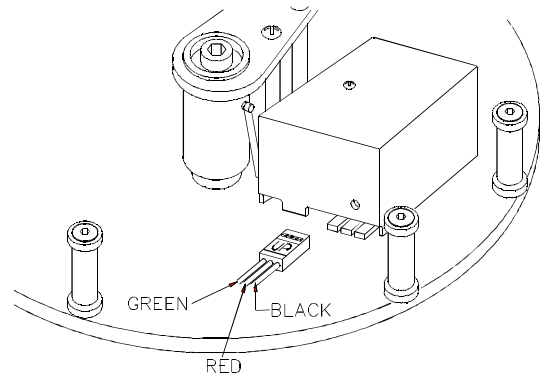

Figure 1
2. Insert the 4-pin plug as shown. (Fig. 1, page 1)